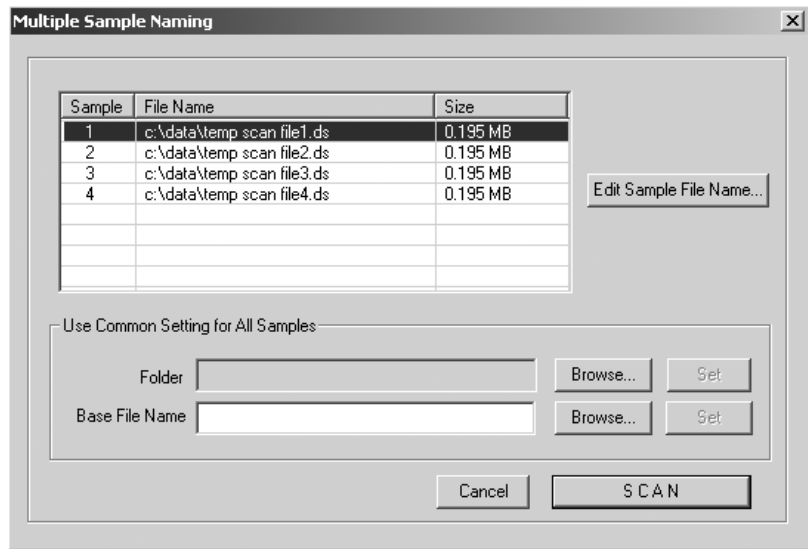

Figure 9-7. The Multiple Sample Naming window.
2. In the Scanner Control window, click the **Scan** button. The Multiple Sample Naming window appears (figure 9-7).
3. In the Scanner Control window, click the **Scan** button. The Multiple Sample Naming window appears (figure 9-7). Default file names appear for each sample.